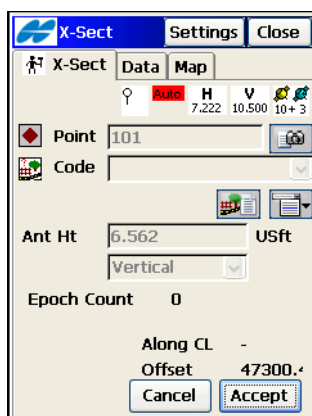

Figure 8-29. Cross-Section Accept
3. On the **X-Sect** screen (Figure 8-29 on page 8-28) perform the usual observation work relative to the cross-section, as described in “Performing a Topo Survey” on page 8-18.